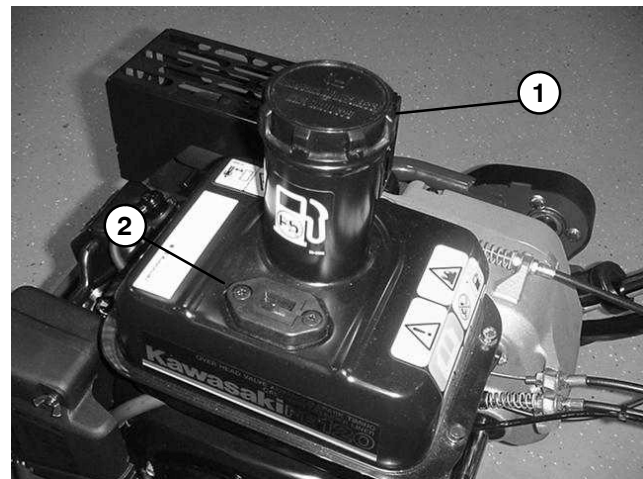

Figure 1
2. Clean around fuel tank cap and remove cap from tank (Fig. 1). Using unleaded gasoline, fill fuel tank to bottom of filter screen. **DO NOT OVER FILL.**